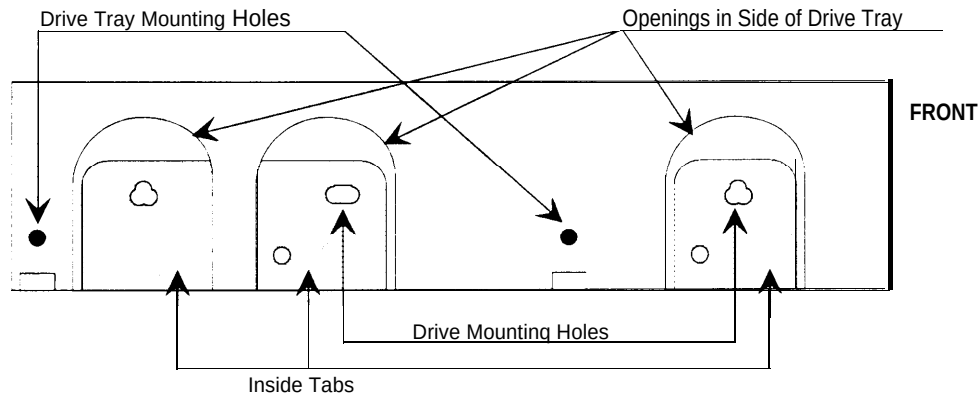

Figure 3-26. Drive Tray
12. Refer to Figure 3-26. Remove the two screws on each side of the drive tray that secure the hard disk.
16. Secure the hard disk drive to the drive tray with the same two screws on each side that you removed earlier as shown in Figure 3-26.